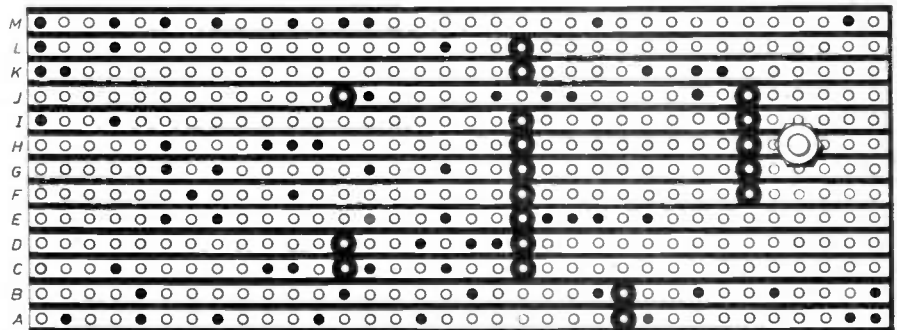

Fig. 3. Component board showing the position of VR1, which is a p.c.b.-mounted type, and underside of board showing breaks to be made in the copper strips.
copper strips as shown in Fig. 3, and drill the small hole to mount L1.
5. VR1 must be of the p.c.b.-mounting type, such as those supplied by Maplin. Cut its spindle to length, then bend the centre pin so that this will fall on the *next* row of holes on the Veroboard to the outside two pins. Veroboard holes are slightly too small for these pins and so the three holes where VR1 fits (see Fig. 3) must be *slightly* enlarged using a spike or small drill. VR1 can now be soldered onto the board. "Tin" VR1's pins first and use a reasonable amount of solder to make these joints since VR1 physically supports the board. This completes the circuit board assembly.